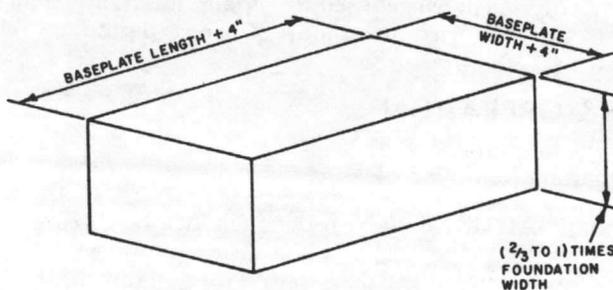
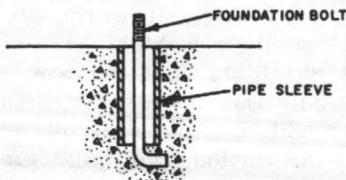

Fig. 1—Foundation Block
Fig. 2—Foundation Bolt
The foundation serves to carry the pump weight and to absorb vibration. Normally, the foundation is made of concrete block, preferably tied in with the floor or ground. Make the foundation block about 4" longer and 4" wider than the base of the frame. Height of the block may vary from  $\frac{2}{3}$  to 1 times the width of the foundation (Fig. 1). When foundation is poured, provide a hole near each of the four (4) corners. To simplify installation and maintenance use lead Anchors. Place the front Anchor about 2" from the edge of the foundation to clear overhanging casings (Fig. 2).